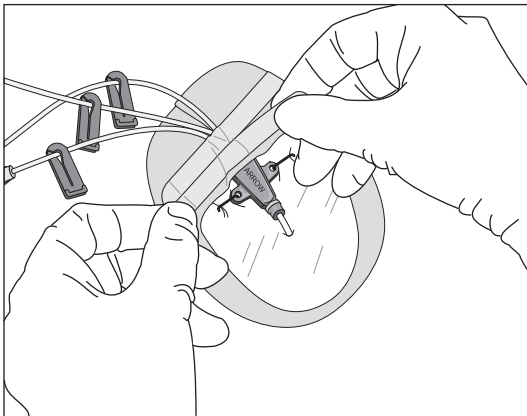

Figure 6
- Use sterile tape strips to secure hub, extension line(s), and/or tubing (refer to Figure 6).